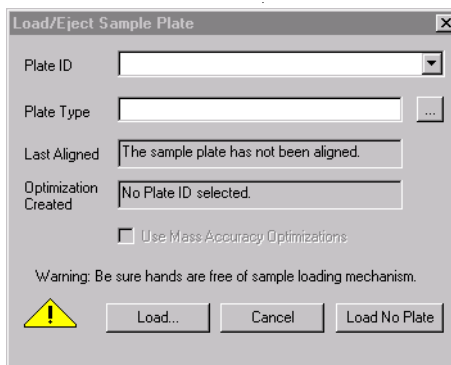

Figure 3-5 Load/Eject Sample Plate Dialog Box
4. From the Sample Plate menu, select **Load** to retract the sample plate and insert it into the main source chamber. The Load/Eject Sample Plate dialog box (Figure 3-5) is displayed.